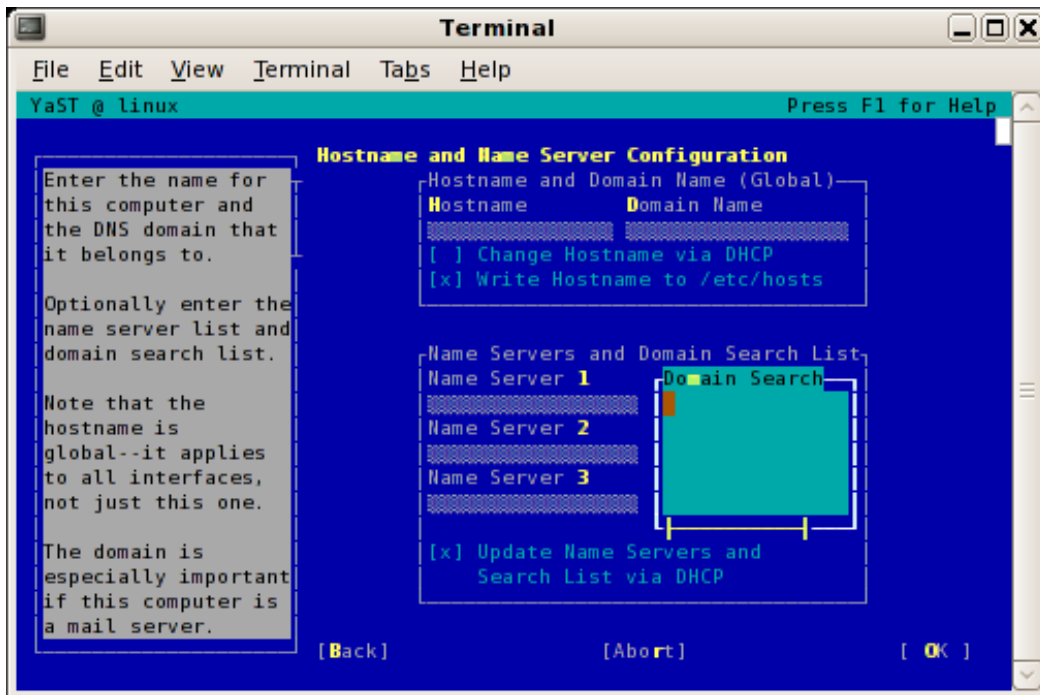

Figure 2-7 Hostname and Name Server Configuration Screen
11. From the **Hostname and Name Server Configuration** screen, enter the name and DNS domain name as shown in Figure 2-7 on page 35. Note that the hostname was entered in step 7.